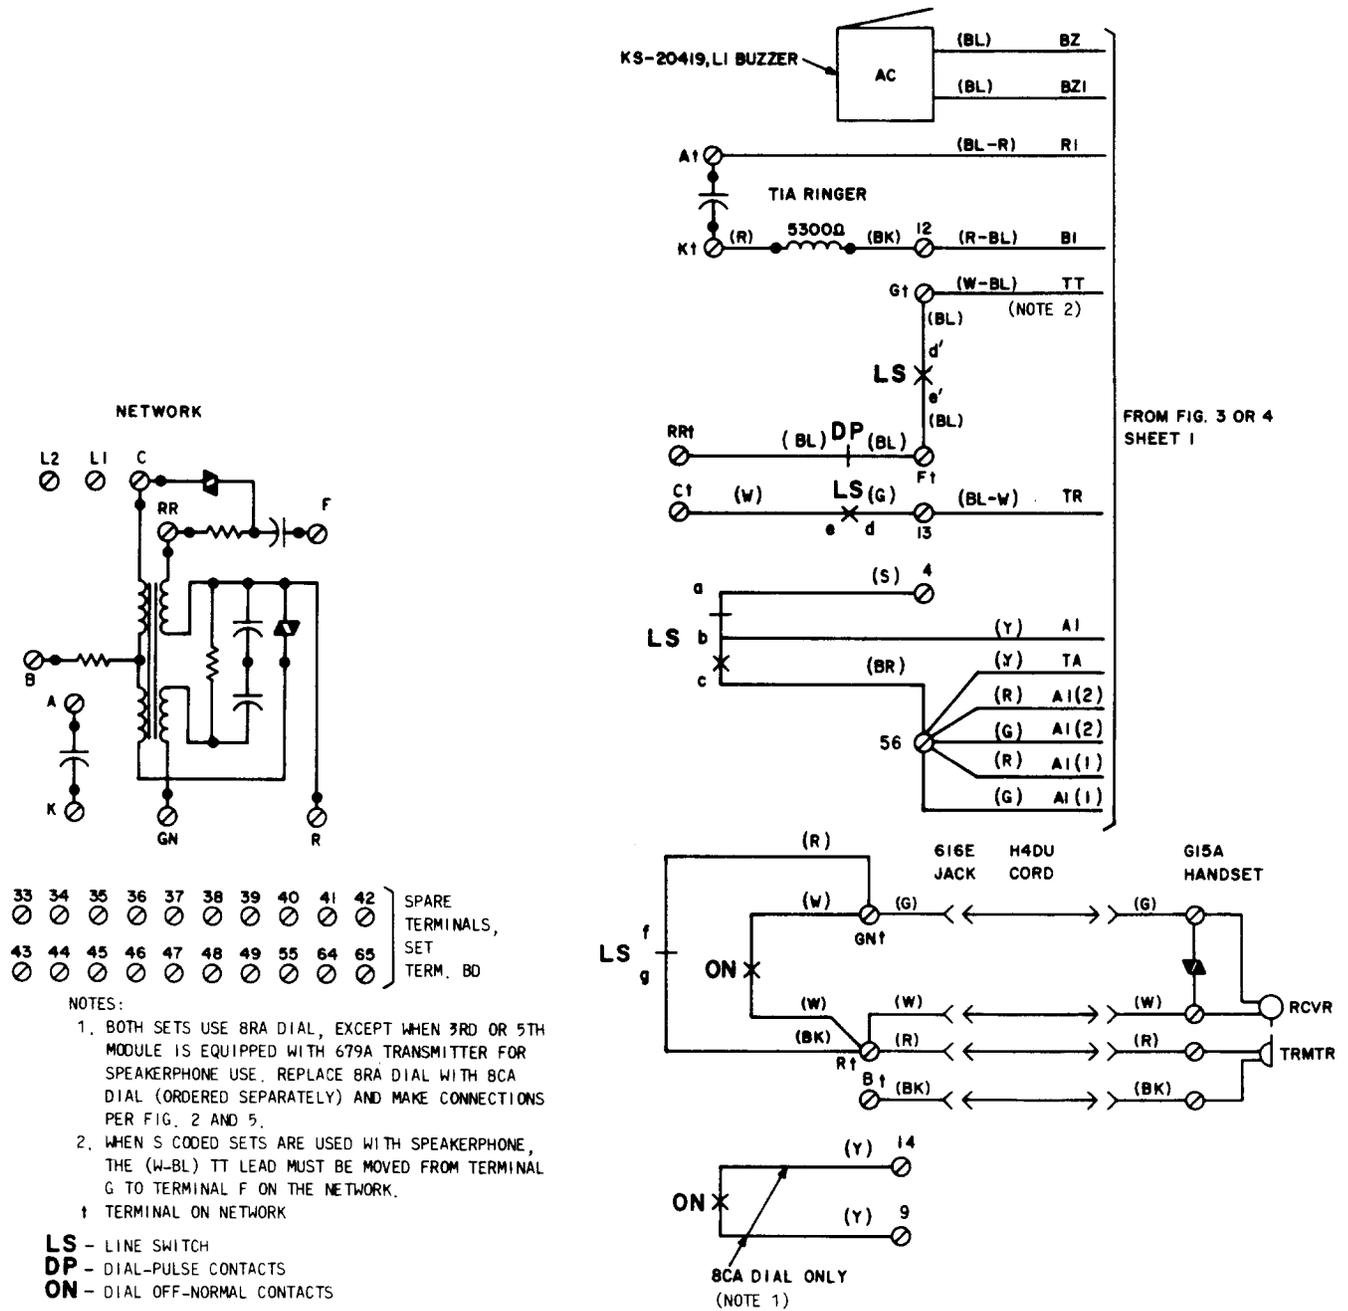

Fig. 2—634DAMS and 635DAMS Telephone Set, Connections
**1.04** The 634DAMS1 and 635DAMS1 sets (Fig. 2) are furnished equipped with a new line switch which breaks both the tip and ring side of the line instead of the ring side only.♦